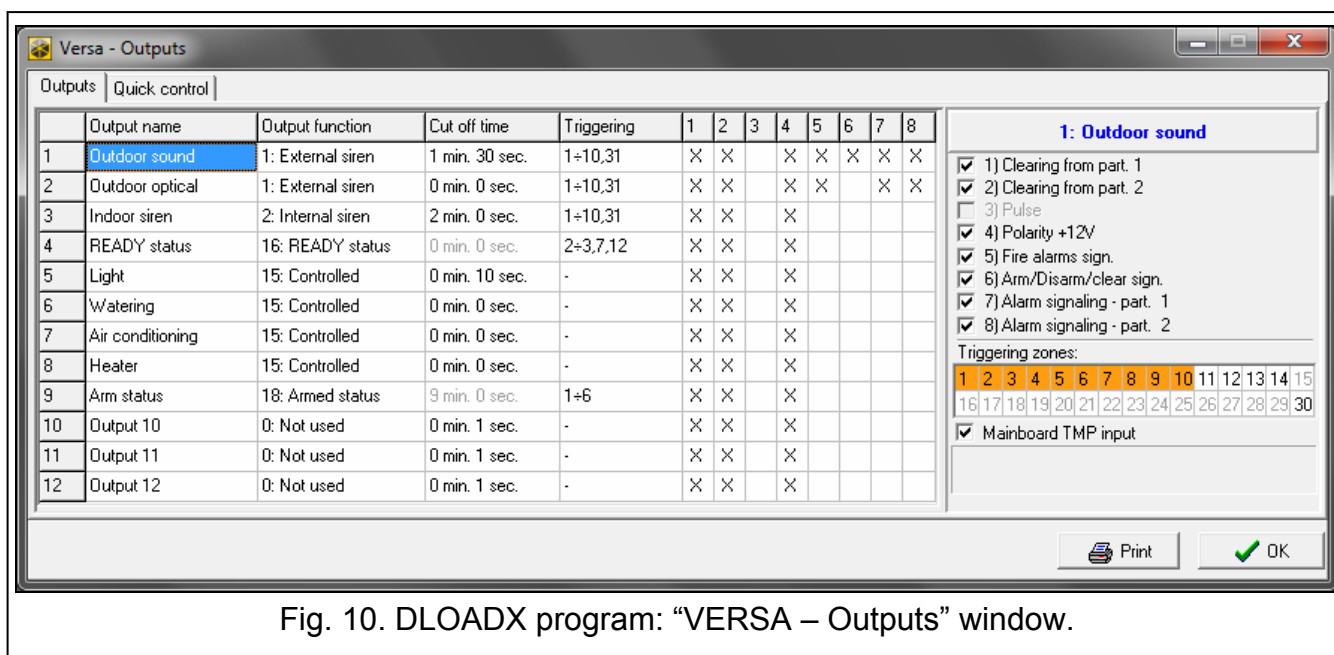

Fig. 10. DLOADX program: "VERSA – Outputs" window.
- DLOADX program: “VERSA – Outputs” window (Fig. 10).